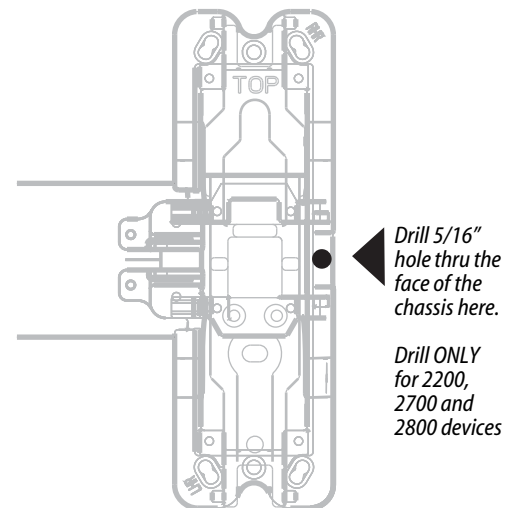

Figure 22 Drilling 5/16" hole for Precision 2200, 2700, and 2800 exit devices only
- Drill a 5/16" hole through the front part of the chassis as shown in Figure 22. (This hole is used to pass the sensor harness and door position switch wires into the chassis area.)